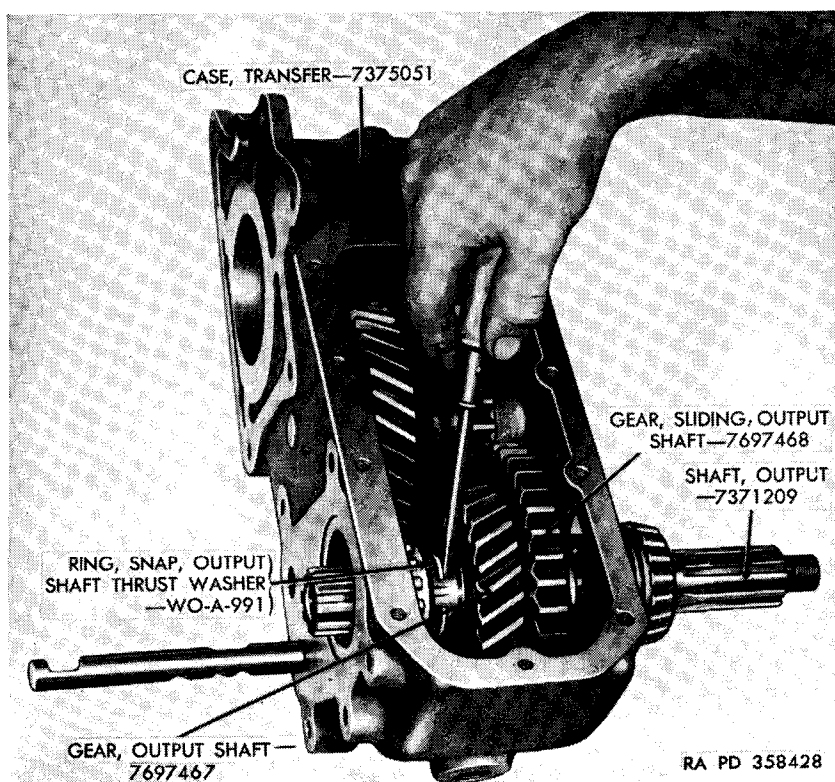

Figure 37. Removing output shaft thrust washer snap ring.
f. Remove Output Shaft (fig. 34). Using remover 41-R-2368-200 (fig. 36), force the output shaft bearing cone (Q) from its seat on the output shaft (P). Remove the output shaft thrust washer snap ring (J) from the groove in the output shaft (fig. 37). Pull the output shaft out from the rear of the case. Remove the output shaft thrust washer (K), output shaft gear (L), and the output shaft sliding gear (M) from the case. The countershaft gear (E), countershaft bearings (Y), and countershaft gear thrust washers (F and X) can now be lifted from the case.